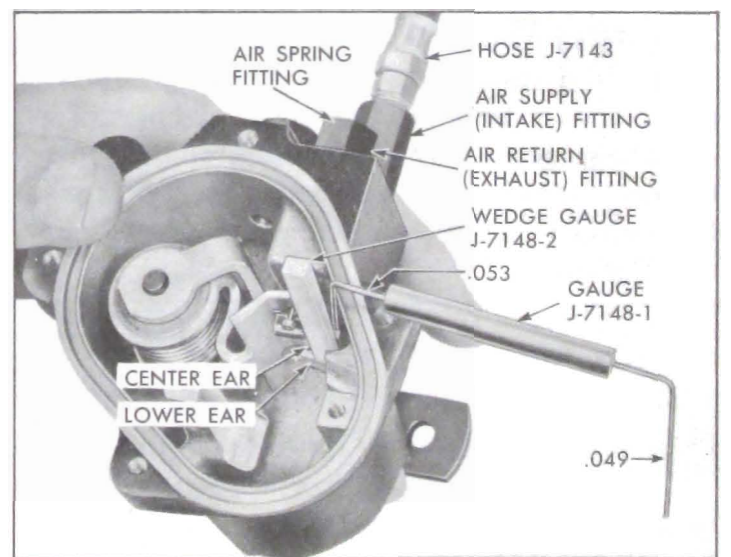

Figure 7-76—Checking Intake Valve
(9) Remove both gauges and place the .053 end of Gauge J-7148-1 into the same location and install the wedge gauge. NO air leakage should be heard. If air leakage does exist, bend the lower ear away from the valve core just enough to stop all air leakage. See Figure 7-76. Recheck using .049 end of gauge if additional bending was necessary.
(10) Shut off the air line pressure and remove the hose from the height valve.